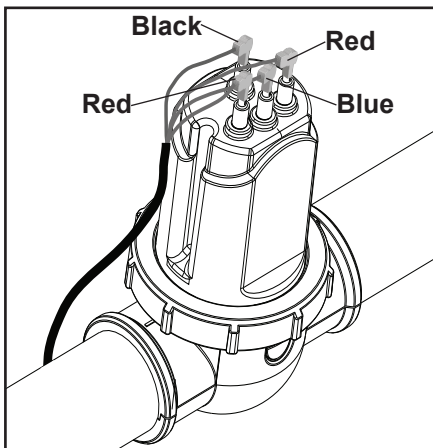

Figure 16. Connecting Cell Leads
15. Securely connect the cell leads to the like colored terminals (see Figure 16).